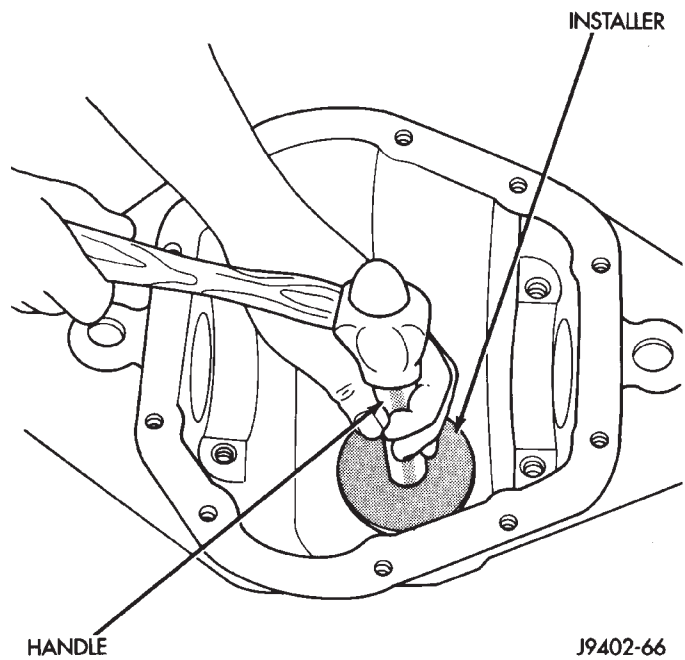
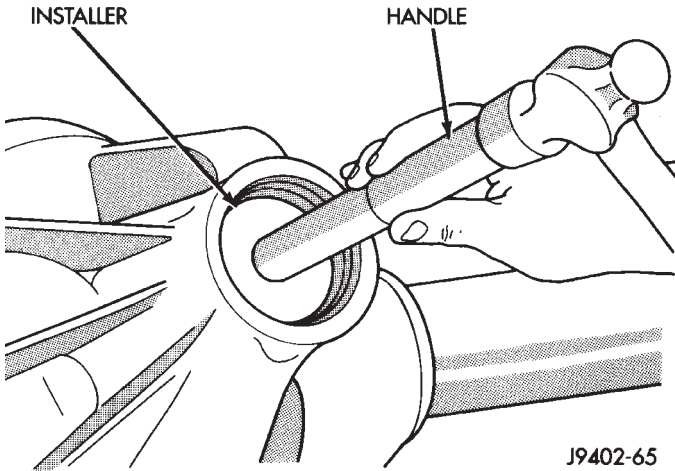

Fig. 40 Pinion Rear Bearing Cup Installation
Fig. 41 Pinion Front Bearing Cup Installation
(1) Apply Mopar® Door Ease, or equivalent, stick lubricant to outside surface of bearing cup.
(2) Install the pinion rear bearing cup with Installer D-146 and Driver Handle C-4171 (Fig. 40). Ensure cup is correctly seated.
(3) Apply Mopar® Door Ease, or equivalent, stick lubricant to outside surface of bearing cup.
(4) Install the pinion front bearing cup with Installer D-130 and Handle C-4171 (Fig. 41).